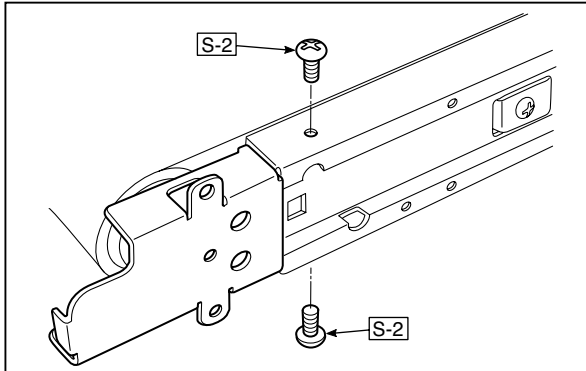

Fig.30
1. Remove the "S-2" screws shown in the figure 30.